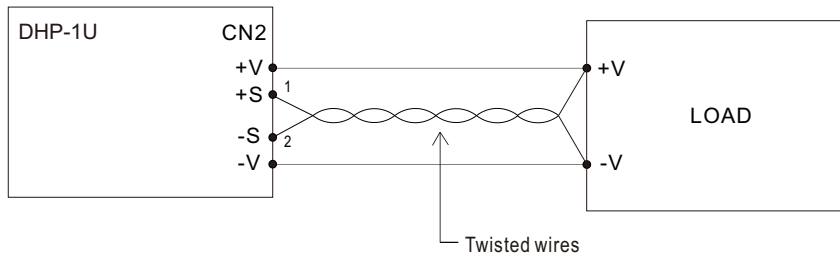

Figure 3-4 Connection of Remote Sense
- ⊙ When using this function, the sensing wires should either be twisted or shielded to prevent external noise interference (refer to Figure 3-4).